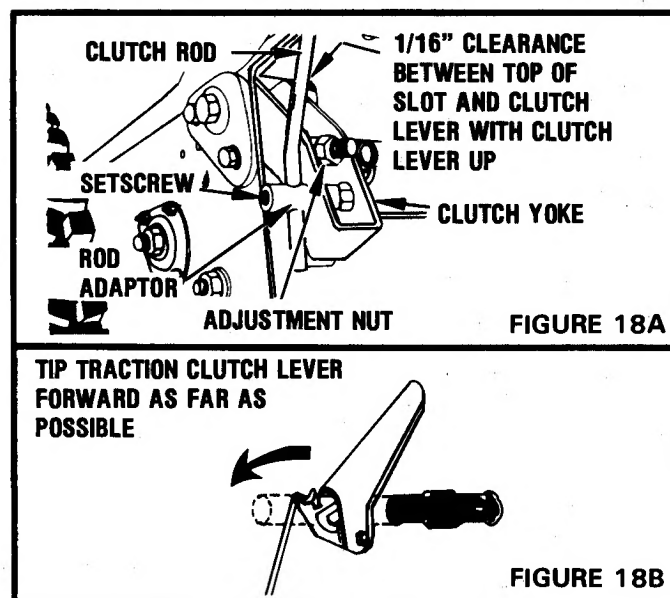

FIGURE 18
3. "Lock in" the differential for adjustment procedure. Position the Traction Clutch Lever so that it is all the way forward (up). See Figure 18. Tighten the traction clutch rod in the rod adaptor with the setscrew. With Traction Clutch Lever down, clutch yoke should come within 1/16" of top of slot in frame. Adjust as required. Place Speed Selector in First. Tip machine forward on blower housing. Tighten the adjustment nut while